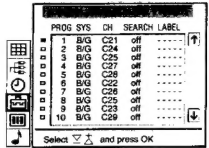

Fig. 19
- Select »Manual Programme Preset« with Δ + or ∇ - and press OK. The MANUAL PROGRAMME PRESET menu appears. (See Fig. 19.)